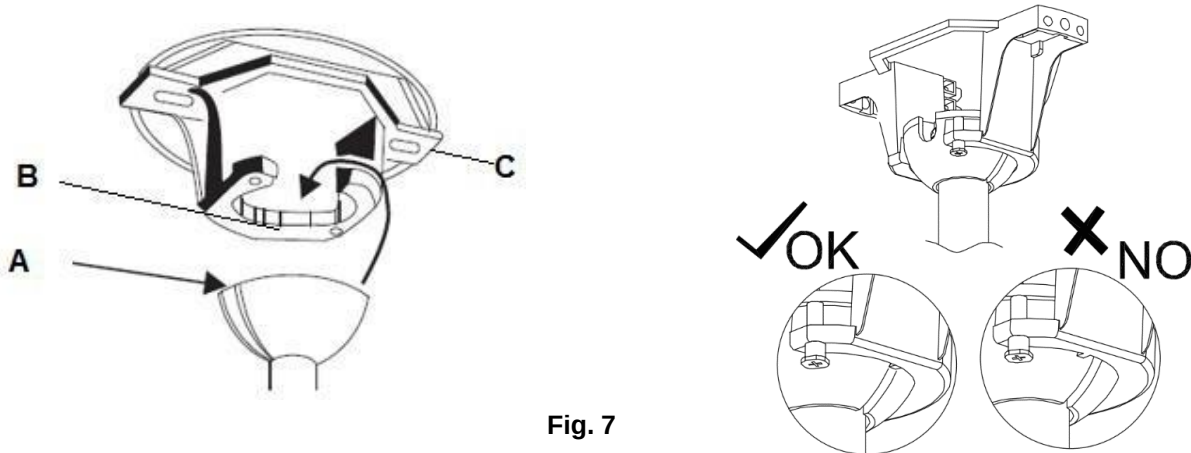

Fig. 7
Lift the fan assembly onto the mounting bracket. Ensure the registration slot (A) of the hanger ball is positioned on the stopper (B) of the mounting bracket (C) to prevent the fan from rotating when in operation. (Fig.7)
PREPARE AND COMPLETE THE ELECTRICAL WIRING --- WIRING DIAGRAM (FIG. 7)